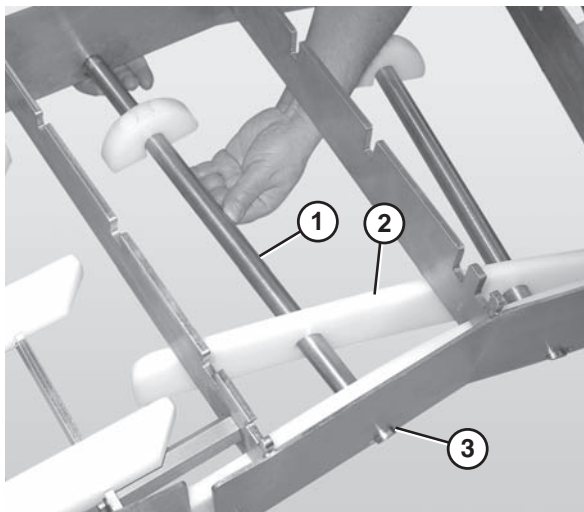

Figure 31
3. Slide the long end of the curve return shaft (**Figure 31, item 1**) through the center hole in the return bottom wear strip (**Figure 31, item 2**).
5. Push up on the return shaft and slide the notched end of the shaft through the small slot on the opposite side of the frame (**Figure 31, item 3**).